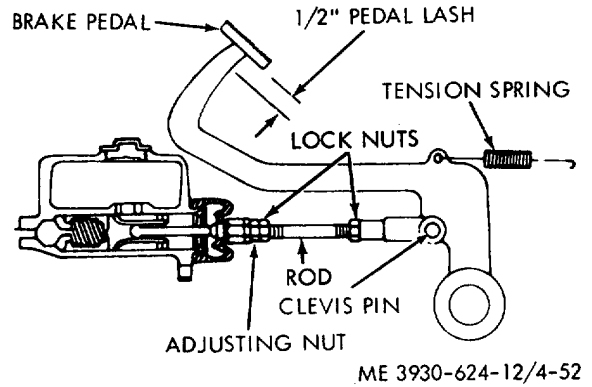

Figure 4-52. Pedal lash adjustment.
(3) Remove the clevis pin securing the push rod to the brake pedal assembly and disconnect tension spring (refer to fig. 4-52).
If the pedal linkage does not provide proper clearance between master cylinder piston and linkage with the brakes released, the piston cannot return to full off position. The brakes will drag after several applications if the by-pass port is blocked. Refer to figure 4-52. Adjust the linkage to provide 1/2 inch of free play measured at the brake pedal by loosening the locknuts and adjusting the adjusting nut. More free play will reduce the usable stroke of the master cylinder piston.